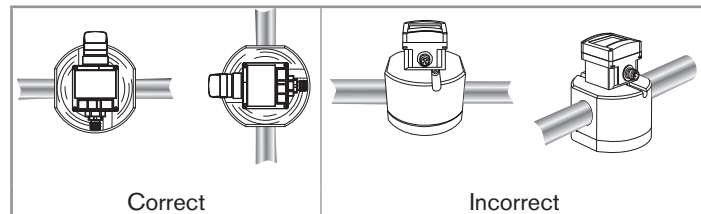

Fig. 4 : The spindles of the oval gears must be horizontal
- the spindles of the oval gears are set horizontally, as shown in Fig. 4.